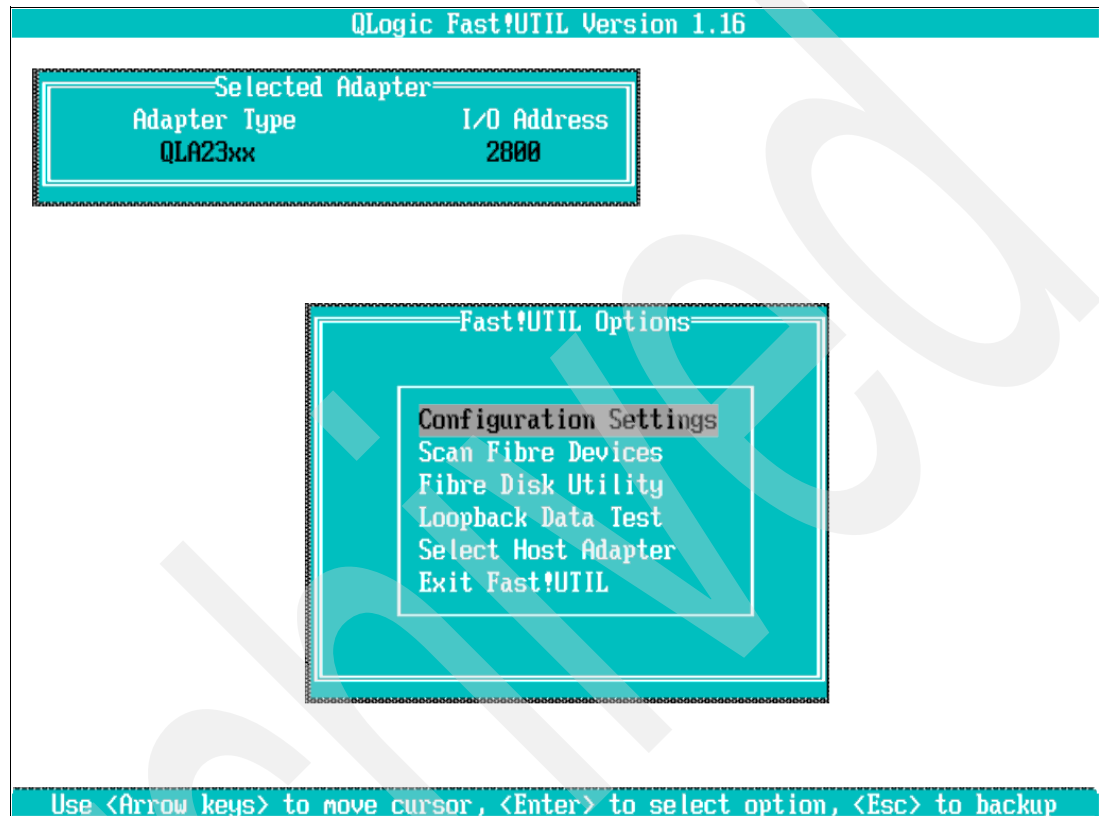

Figure 27-35 Fast!UTIL Options for second HBA adapter
1. Reboot the IBM System x server. Enter Fast!UTIL by pressing Ctrl+Q when prompted. Select the second HBA adapter and press Enter. The Fast!UTIL Options menu displays (Figure 27-35). Select **Configuration Settings** and press Enter.